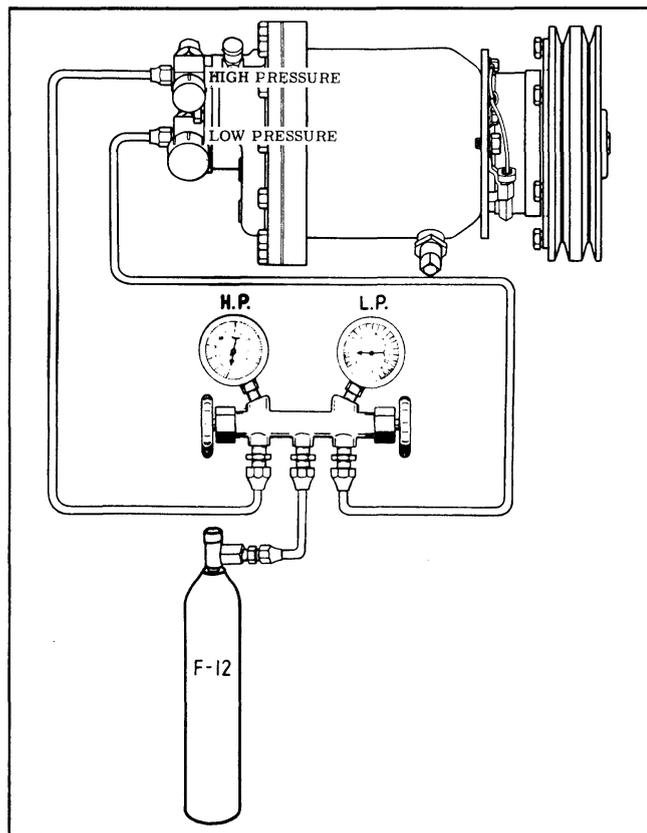

Fig. 14-38 Adding Freon (Partial Charge)
If the system is low on Freon, proceed as follows: (See Fig. 14-38)
3. Remove both compressor gauge outlet fitting caps and install the gauge hoses on the fittings. (See Fig. 14-38)